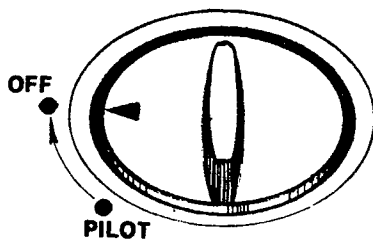

FIG. 9
3. Release control knob pressure and turn clockwise to OFF. (Figure 9)